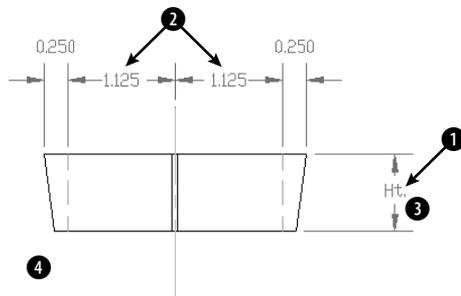

Figure 14-37: A dimensioned cross-section of a valve part.
2. Save the file as ab14-09.dwg in your AutoCAD Bible folder. This is a cross-section of a valve part, as shown in Figure 14-37. Open the Dimension toolbar if it isn't displayed.
3. To replace the dimension marked Ht., choose Modify ⇨ Object ⇨ Text ⇨ Edit. At the Select an annotation object or [Undo]: prompt, choose the dimension at ❶ in Figure 14-37. The Multiline Text Editor opens with the text displayed. Select the current text and type <>. Click OK. The command automatically creates the original measured dimension. Press Enter to end the command.
4. If you are using AutoCAD LT skip to Step 5. Select the two dimensions marked ❷ in Figure 14-37. Also select the cyan center line and the two green hidden lines. Choose Quick Dimension from the Dimension toolbar. At the first prompt, right-click and choose Edit. At the Indicate dimension point to remove, or [Add/eXit] <eXit>: prompt, choose the two edit points (each marked with an X) on the cyan centerline. Right-click and choose Exit. At the Specify dimension line position, or [Continuous/Staggered/Baseline/Ordinate/Radius/Diameter/ datumPoint/Edit/SeTtings] <Continuous>: prompt, place the dimension line where it was previously. (You can use the outside arrows as a guide.)
5. Pick the dimension at ❶. Click the grip on the text to activate it. Drag it to the left slightly to place it closer to the object it is dimensioning.